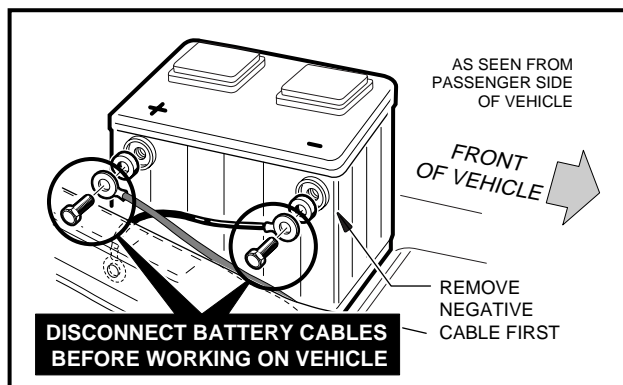

Figure 10-1 Battery Cable Removal
- **Disconnect battery cables, negative cable (–) first (Figure 10-1, Page 10-2).**